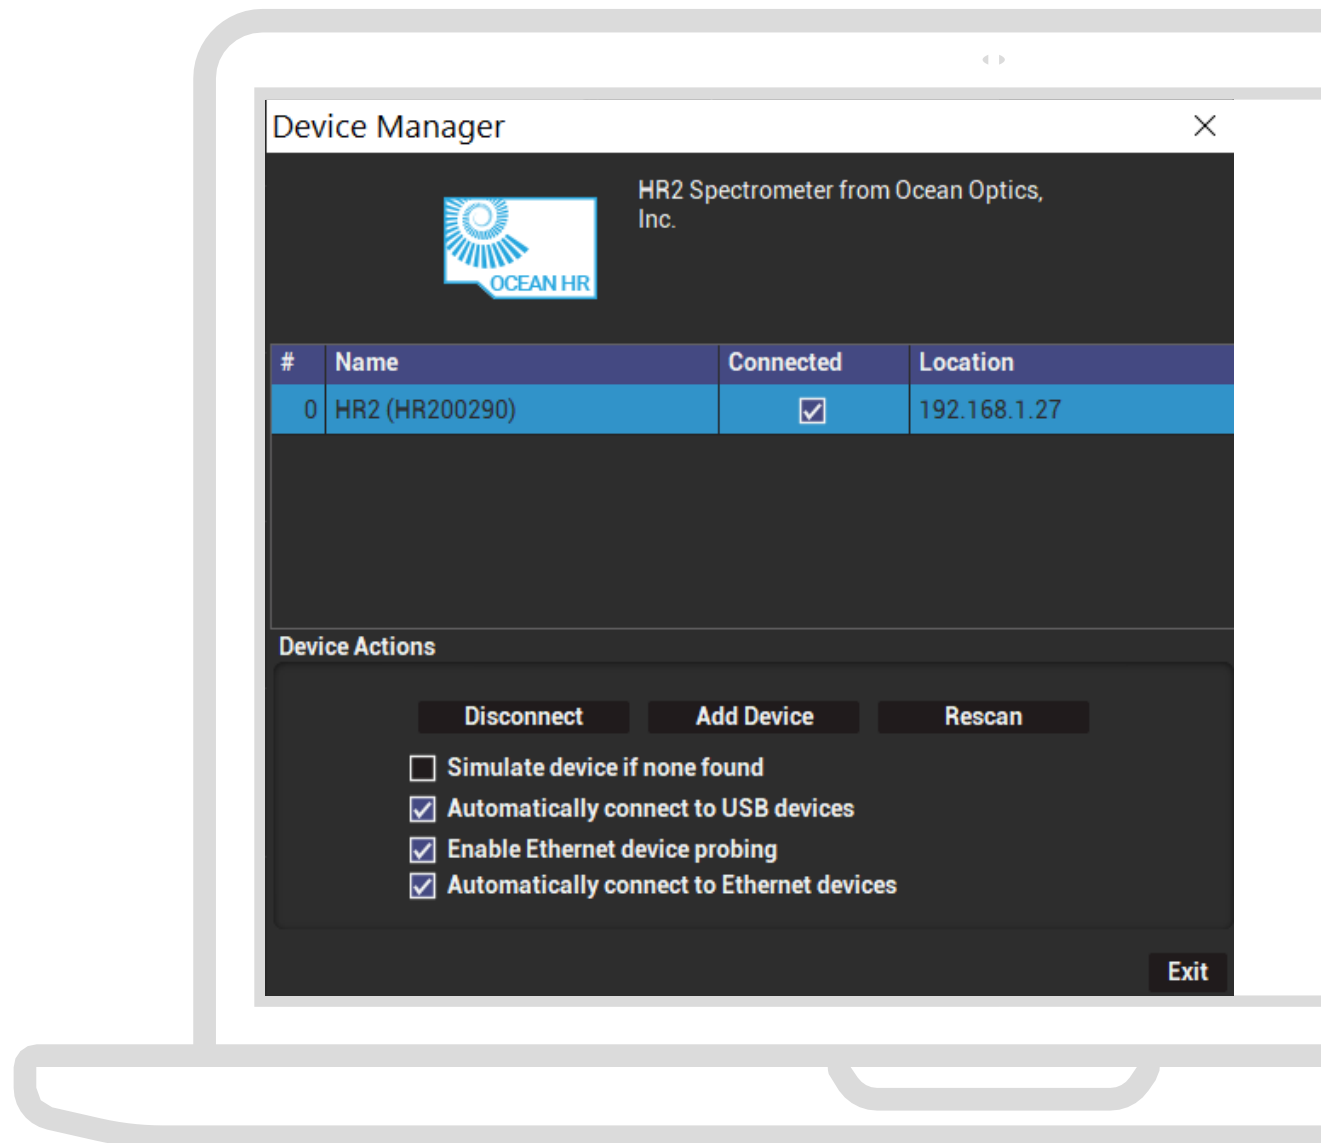

Figure 1 Device Manager showing HR2 connected on the network
- a. Open the Device Manager by clicking on the Magnifying Glass icon or pressing the F5 key. An example Device Manager window is shown in Figure 1.